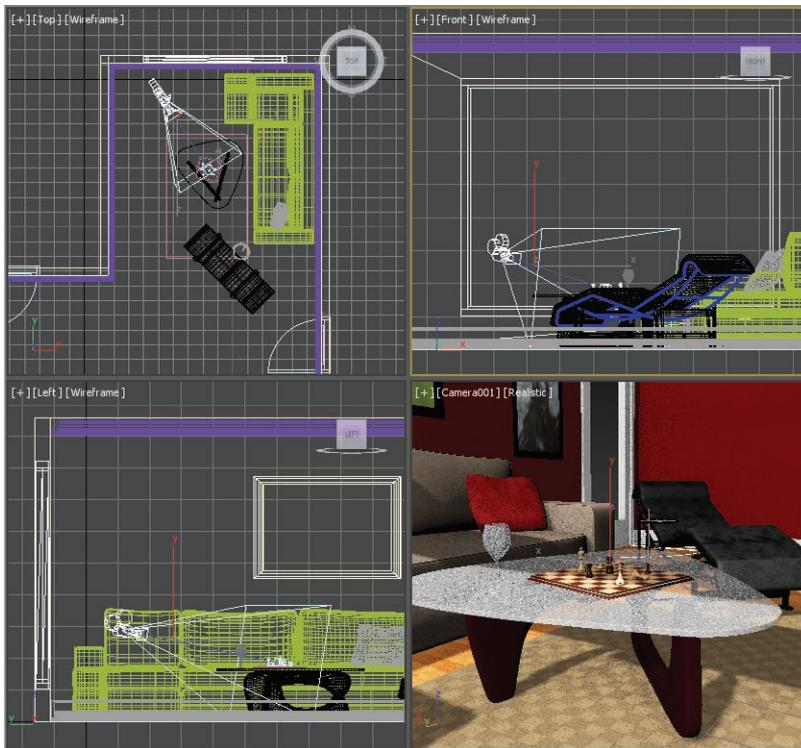

FIGURE 15.9 The position of the camera in the Top, Front, Left and Camera001 viewports.
5. To see the Camera viewport, select a viewport and press the C key. This changes the viewport to whatever camera is currently selected. The position of the camera and the way it looks in the Camera001 viewport is shown in Figure 15.9.